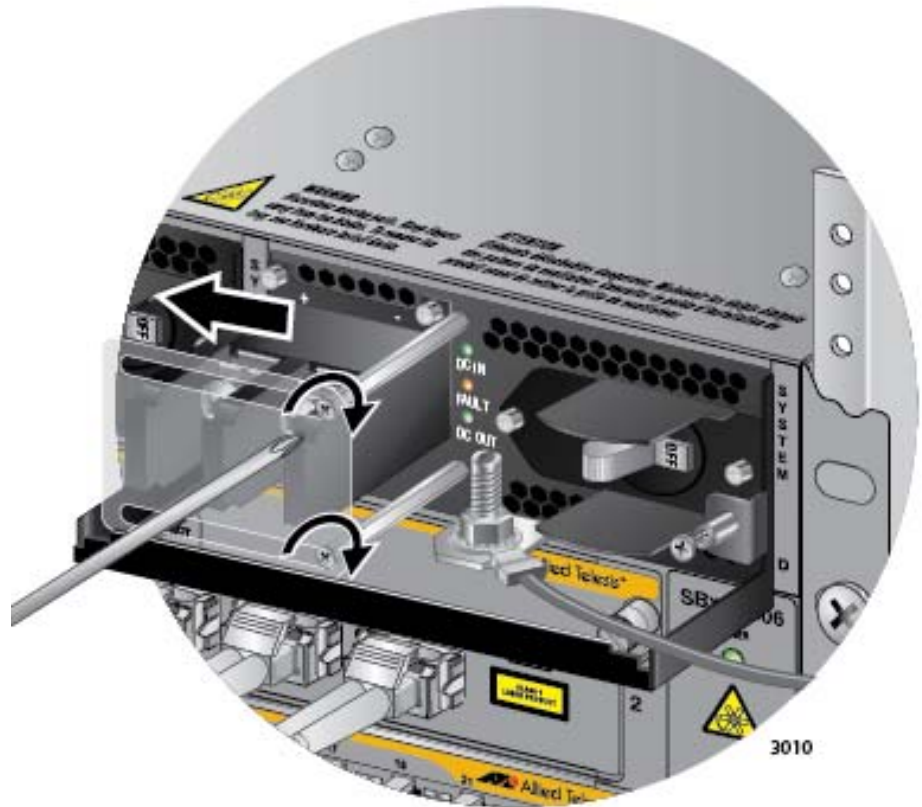

Figure 157. Closing the Plastic Cover
8. Slide the plastic cover to the left and lightly tighten the two screws to secure it in place. Refer to Figure 157 on page 249.